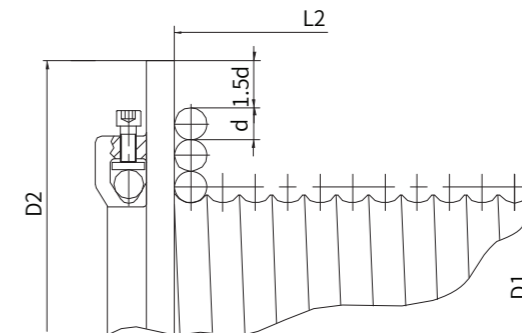

图5 Figure 5
4.4 卷筒和钢丝绳相关 计算(图5):
4.4 The related calcula-tions between drum and rope (figure 5):